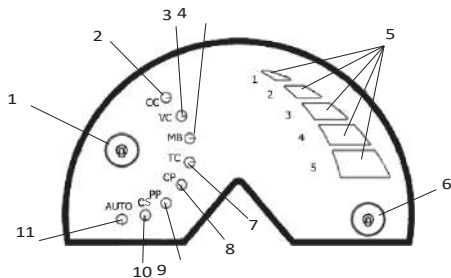

Fig. 7 Control panel elements
The pump has several control modes. The control mode is selected by pressing the button on the control panel, see Fig7, pos. 1. 1. The selected control mode is indicated by light fields on the control panel.